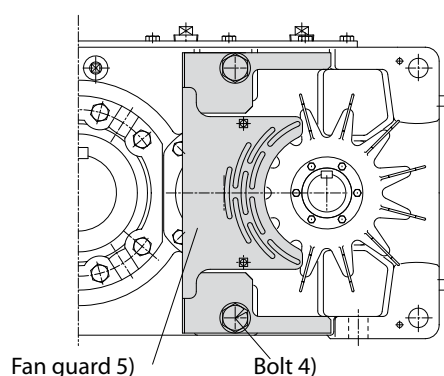

Fig. 5
2. Unscrew bolt 4) and then remove the fan guard 5) (Fig. 5) if the fixing bolt 9) can still not be inserted yet.